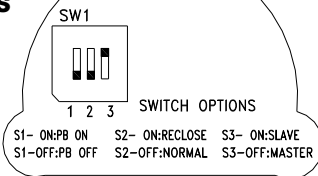

Figure 20: Switch Selectable Options
There are three (3) option selection switches on the LPX1000 controller board that result in four (4) switch selectable options. Please review Figure 20. The switches are contained in a 3-pole dip switch package at the bottom right of the board. The text that follows describes each of the options they select